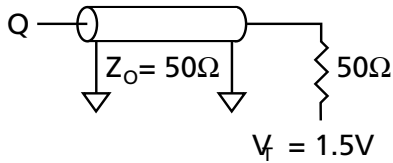
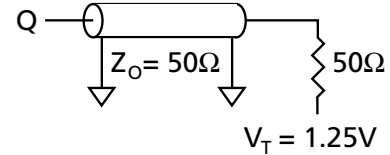

Figure 1
Figure 3
1. Test conditions as specified with the output loading shown in Figure 1 for 3.3V I/O ($V_{DDQ} = +3.3\text{V} +0.3\text{V}/-0.165\text{V}$) and Figure 3 for 2.5V I/O ($V_{DDQ} = +2.5\text{V} +0.4\text{V}/-0.125\text{V}$).
| Output load | See Figures 1 and 2 |
| Output load | See Figures 3 and 4 |